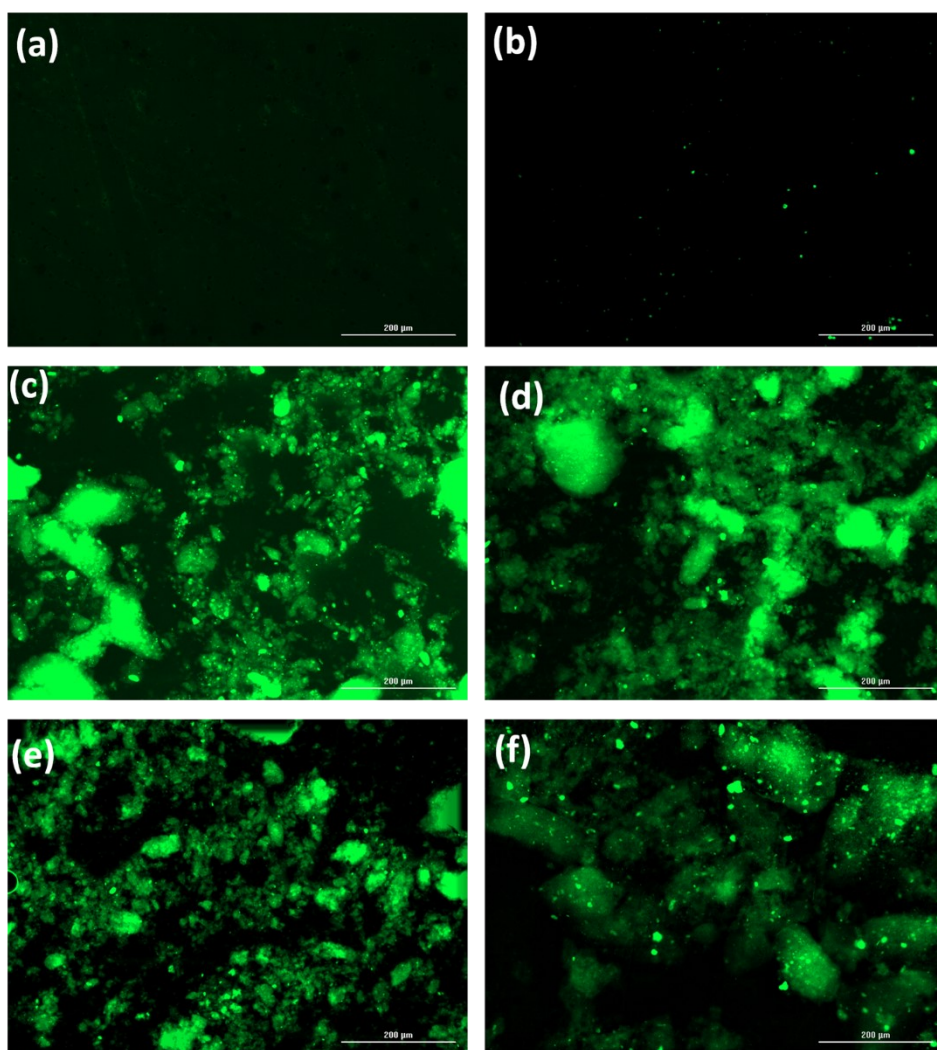

**Figure S2.** Spectra representing the variation in HT with wavelength for Tc and heparin combined hydrogels at 10 mg/mL concentration.
4. **Figure S2.** Spectra representing the variation in HT with wavelength for Tc and heparin combined hydrogels at 10 mg/mL concentration.